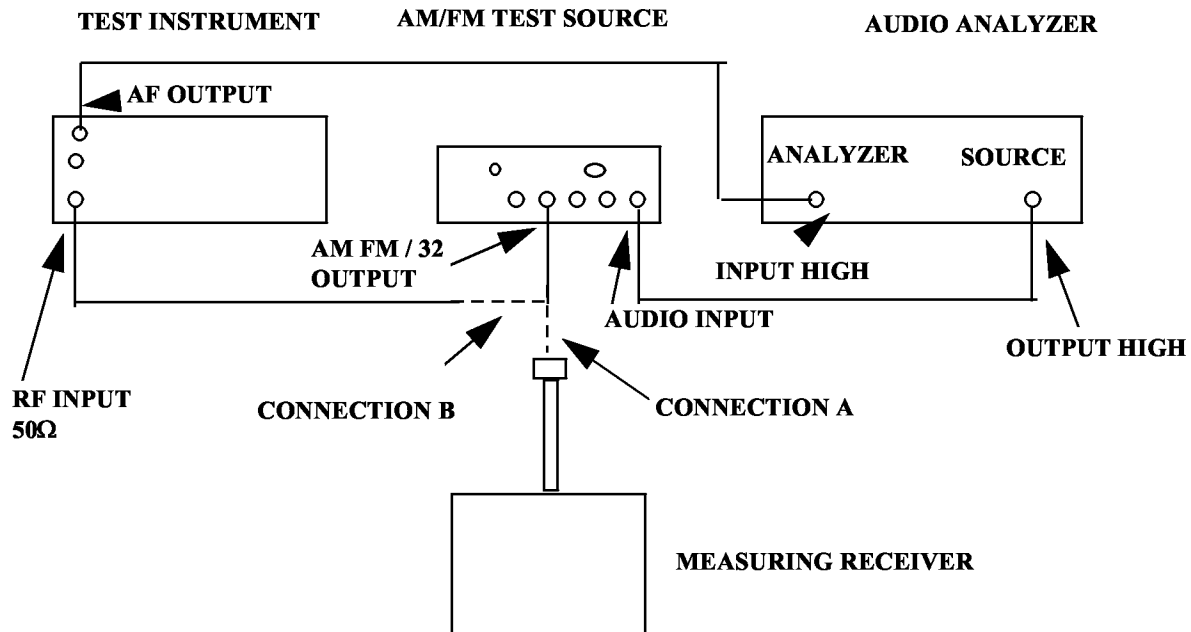

Figure 5. AM accuracy
(1) On measuring receiver, calibrate the **AM** and **FM** by using the low frequency **SENSOR MODULE**.
(2) Connect equipment as shown in figure 5, **CONNECTION A**.
(3) Ensure TI pushbuttons are pressed (on) as indicated in (a) through (h) below:
(5) On measuring receiver press **FREQ** pushbutton.
(6) On AM/FM test source, set **TEST MODE** switch to **AM** and adjust **CARRIER FREQUENCY TUNE** control for **12.5 MHz** display indication on measuring receiver.
(7) On measuring receiver, press **AM** pushbutton and record amplitude modulation displayed indication.
(8) Connect equipment as shown in figure 5, **CONNECTION B**.
(9) TI **LEVEL/DATA ENTRY** display will indicate within $\pm 2.5\%$ + one count of the recorded value in (7) above.
- (10) Audio analyzer display will indicate $< .3\%$ distortion.
- (11) Connect equipment as shown in figure 5, CONNECTION A.
- (12) On audio generator, press **SOURCE LEVEL** pushbuttons to 492 mV.
- (13) On measuring receiver, record amplitude modulation displayed indication.
- (14) Connect equipment as shown in figure 5, CONNECTION B.
- (15) TI **LEVEL/DATA ENTRY** display will indicate within $\pm 2.5\%$ + one count of the recorded value in (13) above.
- (16) Audio analyzer display will indicate $< .6\%$ distortion.